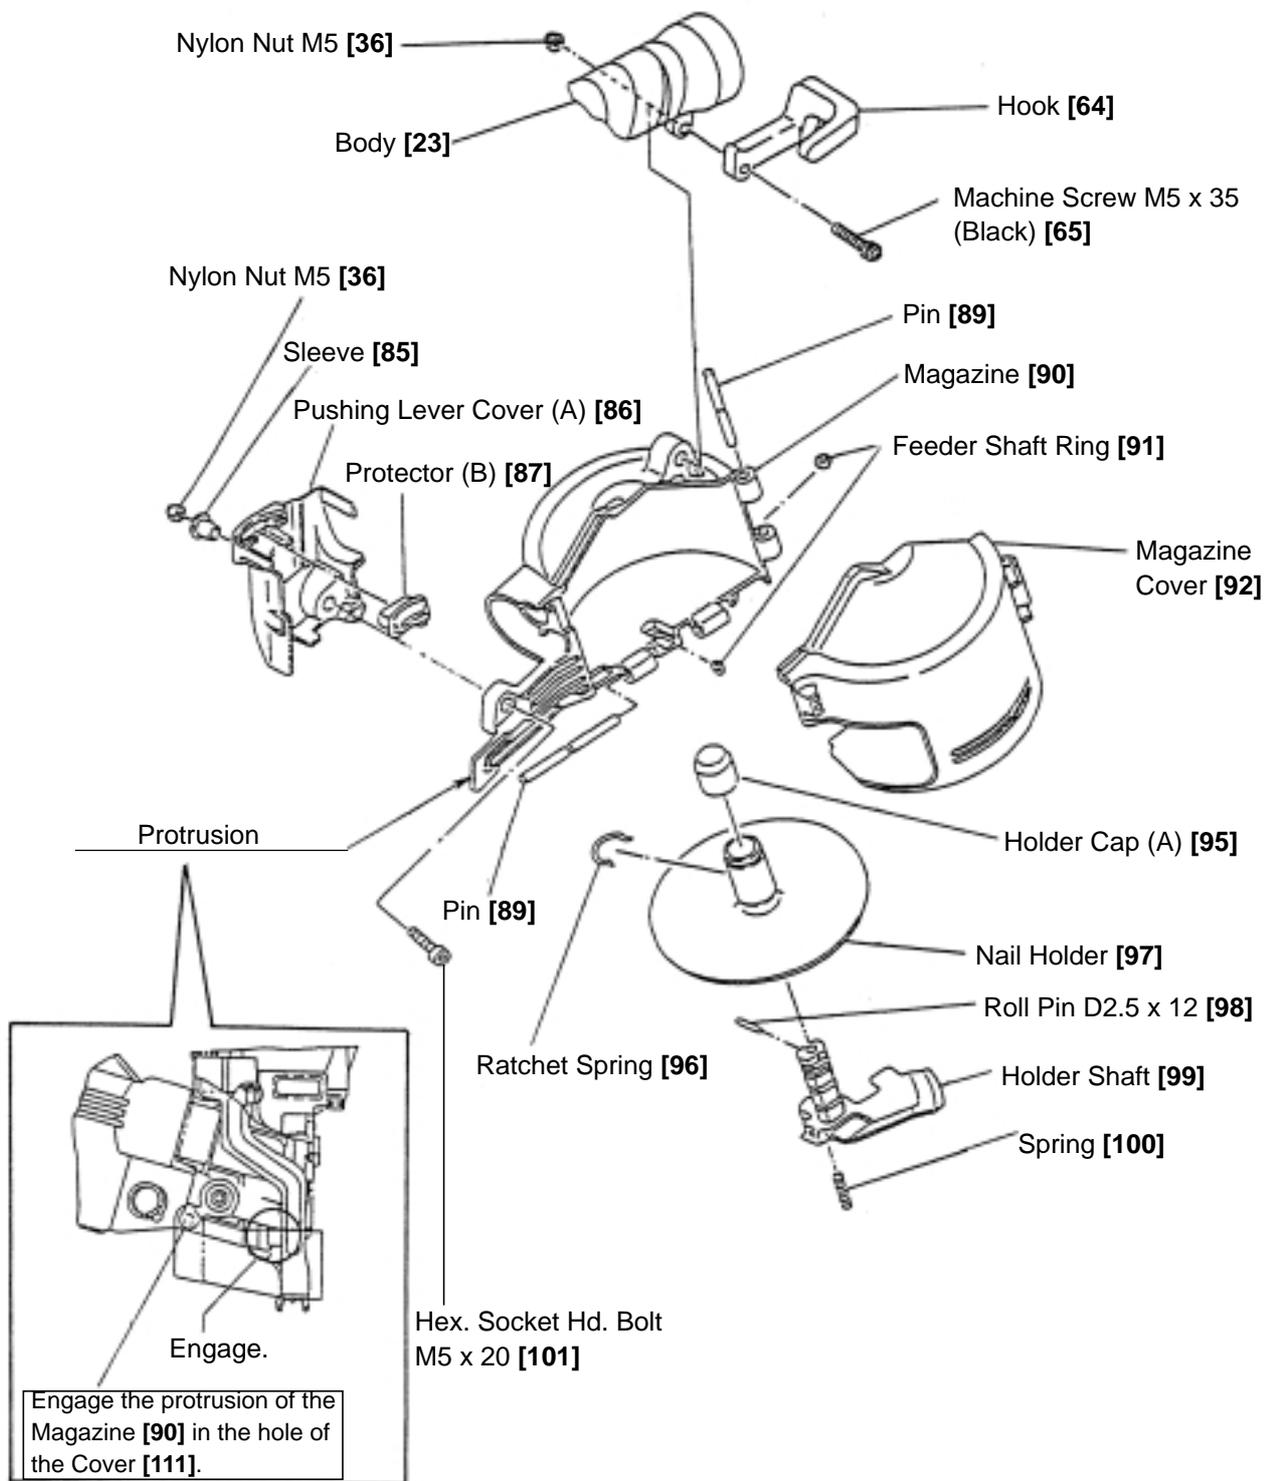

Fig. 24 Disassembly and reassembly of magazine section
- (1) Disassembly and reassembly of the magazine section
- (a) Disassembly (Fig. 24)
- Deform Pushing Lever Cover (A) [86] using a flat-blade screwdriver and disengage it from the Nose [27].
- Fit the convex portions of Nail Stopper (A) [103] and Nail Stopper (B) [108] in the Nail Stopper Spring [104] and the Stopper Spring [109] securely.
- After reassembly, push Nail Stopper (A) [103] and Nail Stopper (B) [108] with fingers to check that they return smoothly.
- Bend the tip of the Cover [111] and engage it with the convex portion of the Magazine [90] (Fig. 24).
- Check that Plunger (A) [73] moves smoothly.
- Push Nail Stopper (A) [103] and Nail Stopper (B) [108] with fingers to check that they return securely.